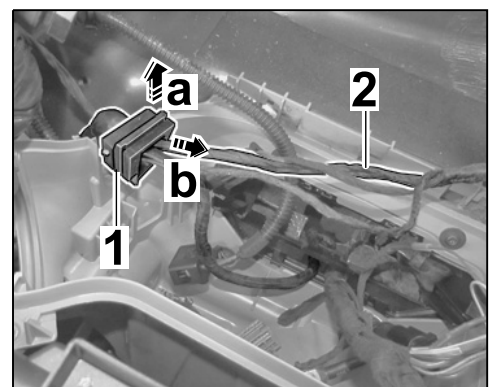

Figure 25
- 4.5 Pull the grommet \Rightarrow *Figure 25-1-* partly out of the fuse box in the cowl panel \Rightarrow *Figure 25-a-* and punch it.
Carefully feed wire harness for engine noise pulse sender \Rightarrow *Figure 25-2-* through the grommet \Rightarrow *Figure 25-b-*.